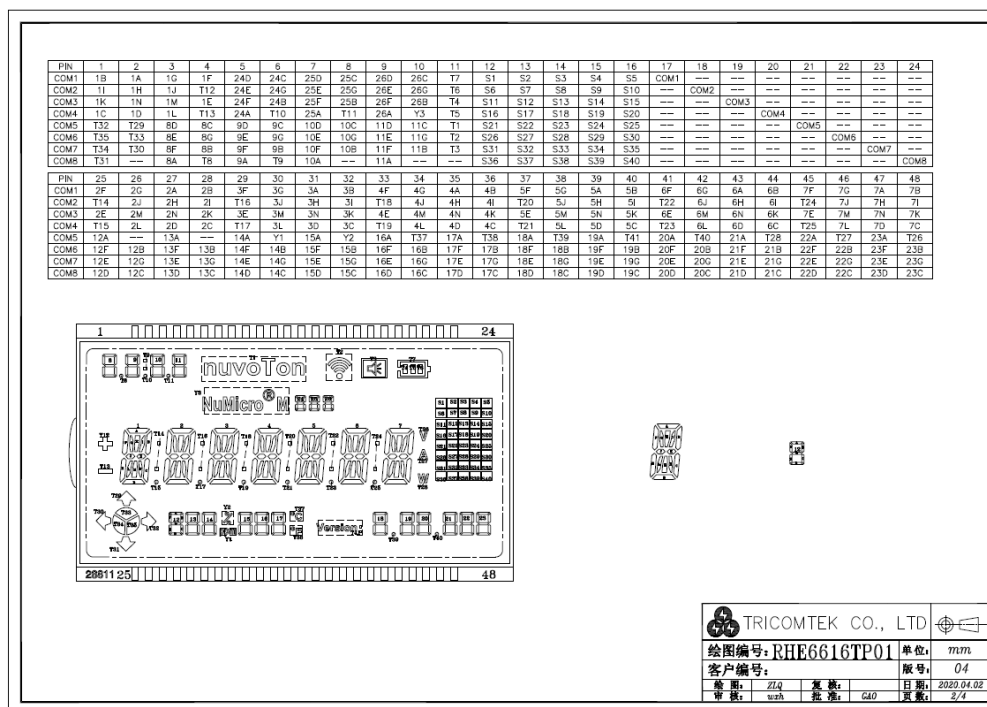
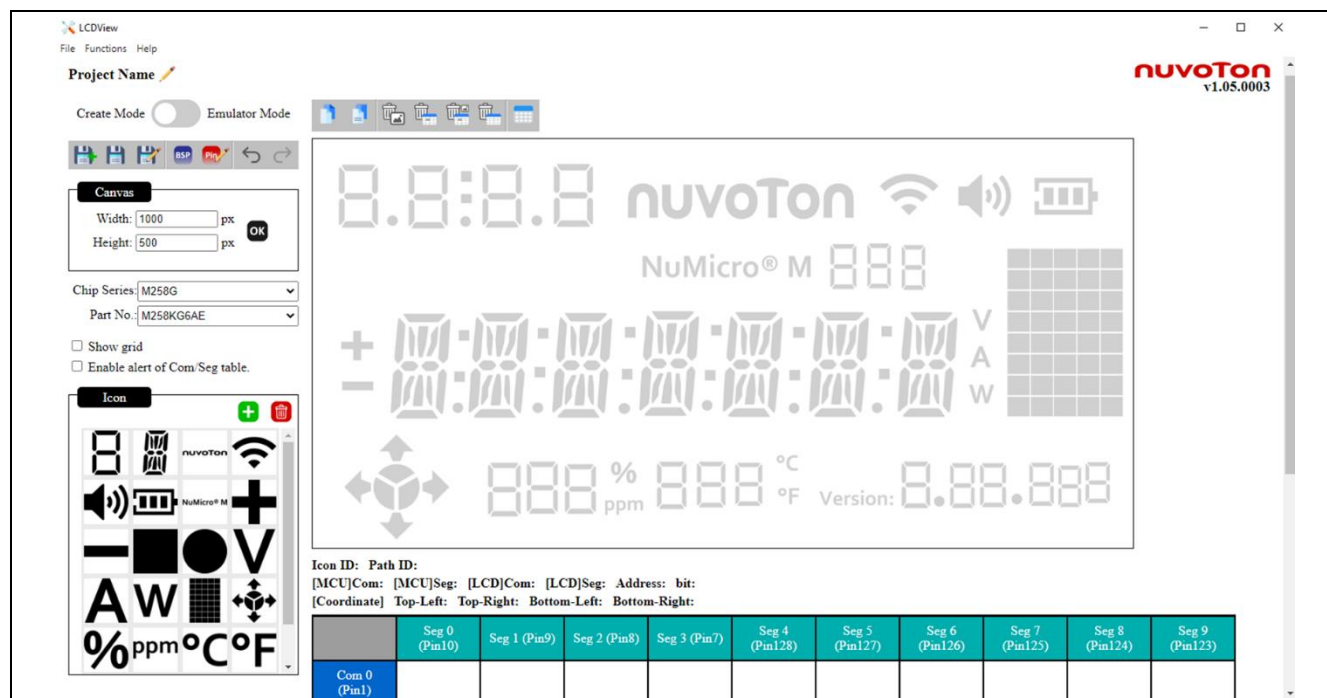

Figure 1-6 Specification of LCD
Figure 1-7 Edit LCD Canvas according to the LCD Spec.
- Refer to the specification of LCD panel, as shown in Figure 1-6. Drag and drop the figure from the icon database to the canvas to finish the whole placement of icons, as shown in Figure 1-7. The size and position of icons can be adjusted directly. Users can also add new icons with the “svg” file type into the icon database.